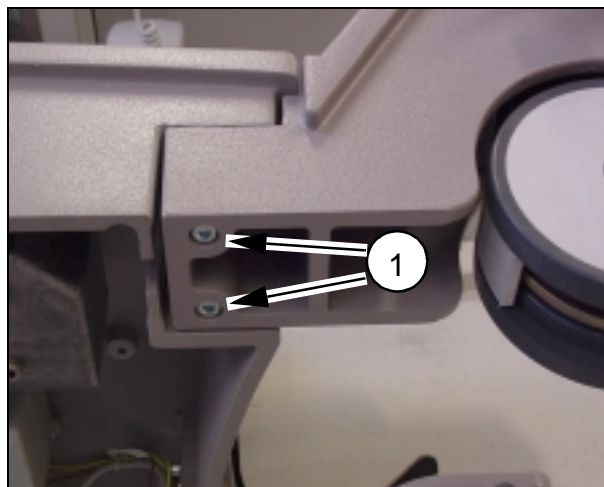

Fig. 8
- Fit the 4 castors corresponding to Fig. 8. 2 screws M8 x 70 with lock washers (1/Fig. 8) are required. (Use Loctite 221). Only the new screws supplied may be used.